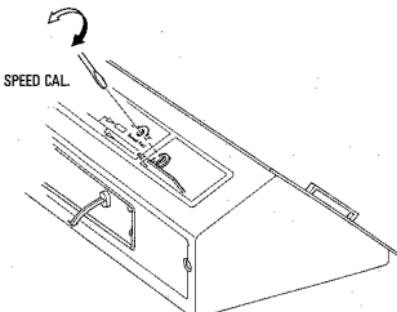

Fig. 5.2
- (1) Connect a frequency counter to the output jack.
- (2) Load a 3 kHz Speed Wow/Flutter Tape (DA09006A) and play it back.
- (3) Adjust the tape speed adjust potentiometer (accessible from the rear apron without removing cabinet). See Fig. 5.2.